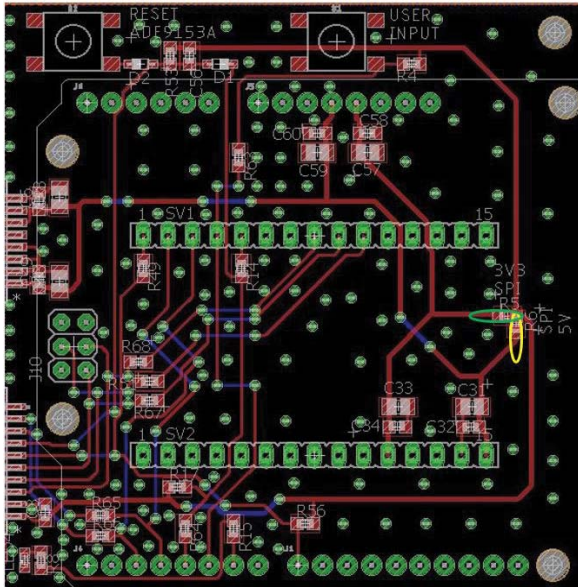

Figure 2. DC Power Supply Selection
- Disconnect the 5 V SPI jumper and connect a 3 V SPI jumper to ensure that the correct voltage is applied, as shown in Figure 2.